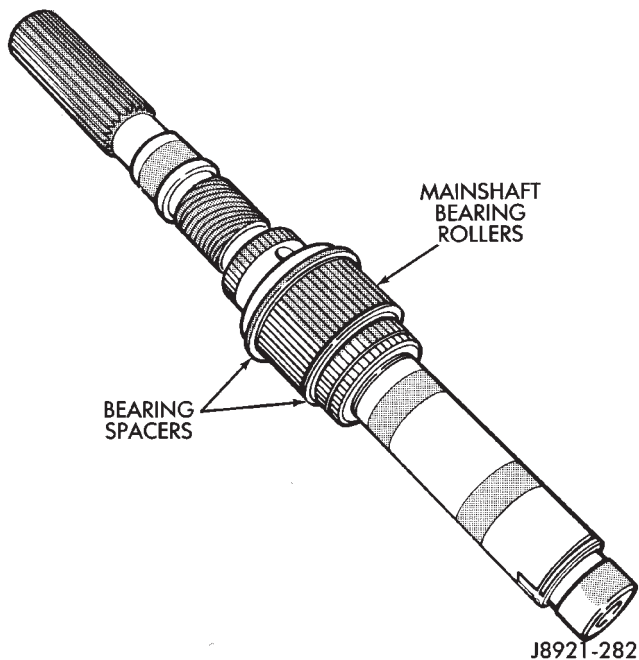

Fig. 56 Installing Mainshaft Bearing Rollers and Spacers
(31) Install first mainshaft bearing spacer on mainshaft (Fig. 56).
(32) Install bearing rollers on mainshaft (Fig. 56). **Coat bearing rollers with generous quantity of petroleum jelly to hold them in place.**
(33) Install remaining bearing spacer on mainshaft (Fig. 56). Do not displace any bearings while installing spacer.